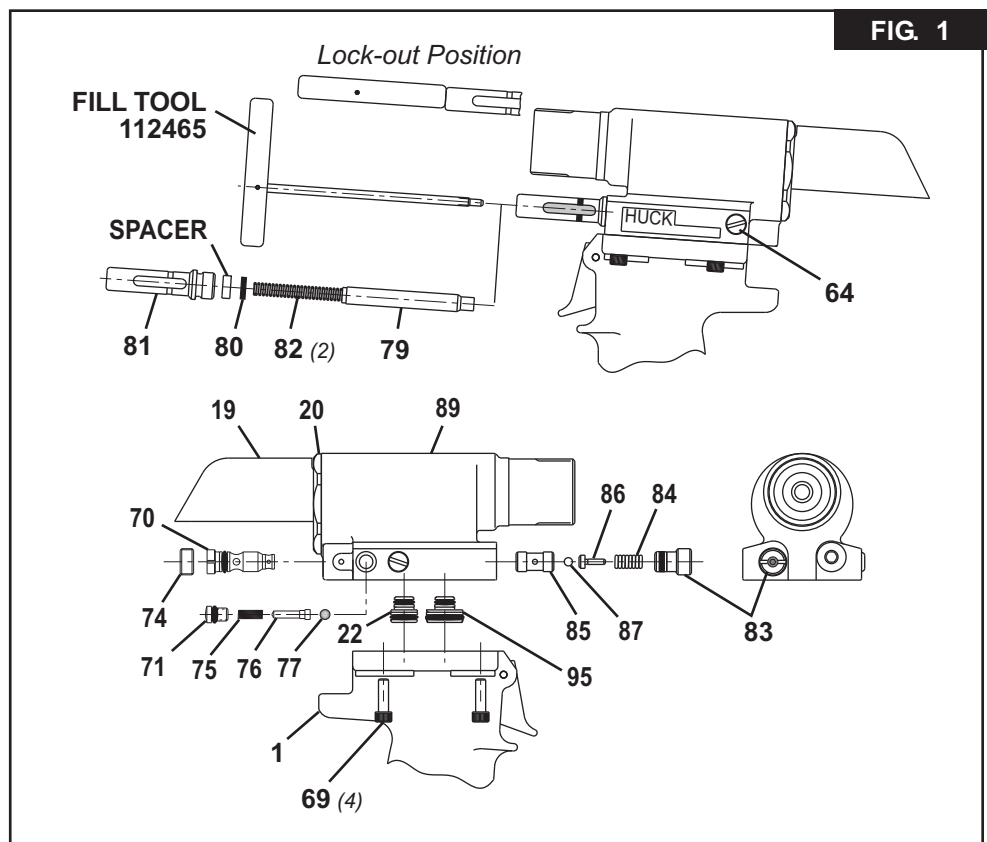

FIG. 1
5. Insert Fill Tool, P/N 112465 through reservoir housing and screw into reservoir plunger (79) locking it in the out position (Fig.1).
6. Unscrew cap screws (69) with 5/32 hex key. Carefully lift Head straight up from Handle (1), remove Pull Gland (95) and Return Gland (22) from separated assemblies.(Remove seals from glands) (Fig.1).
7. Unscrew Plug (83) of return Pressure Relief Valve from front of head. Remove Spring (84), Valve Guide (86), sleeve (85) and Steel Ball (87). A small magnet is helpful (Fig.1).
8. Unscrew Bleed Plug (64). Hold over waste oil container and release fill tool slowly.
9. Unscrew Reservoir Housing (81) from head. Remove two Springs (82). Slide Reservoir Plunger (79) from head. Remove spacer and quad ring (80). A pick may be used to remove the quad ring (Fig.1).
10. Unscrew Plug (71) of reservoir check Valve from side of head. Remove Spring (75), check Valve Plunger (76) and Stainless Steel Ball (77) (Fig.1).
11. If check valve seat (78) is damaged contact your Huck representative. If seat (88) is damaged it can be removed by using the following procedure.
12. Install O-ring (72) and Back-up rings (25) onto seat. Drive seat and seal assembly in using soft drift taking care not to damage ball seat surface. (Fig. 1 & 9)
17. Install O-ring (72) & Back-up Ring (25) on Plug (83). Install Ball (87), Guide (86), Sleeve (85), Spring (84) and Plug (83) into head. (Fig. 1 & 9).
18. Install O-ring (65) on Plug (71). Install Ball (77), Guide (76), Spring (75) and Plug (71) into head.